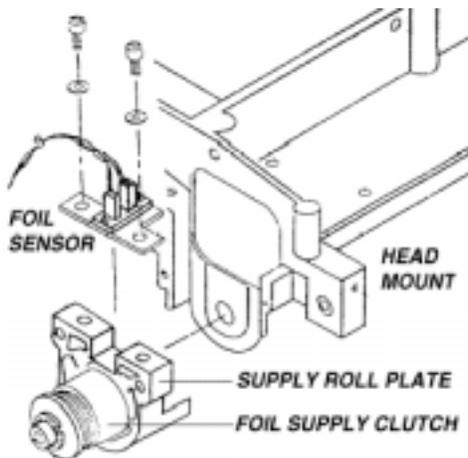

Fig. 1
1. Remove the top cover. Use a 2.5mm allen wrench to remove the (4) screws securing the top cover.
2. Remove the foil sensor/bracket assembly from the back of the supply roll plate (Fig. 1) by using a 3mm allen wrench to remove the (2) screws and washers. DO NOT let the allen screws and small washers fall into the Edge.
9. Install foil sensor/bracket assembly on the back of the supply roll plate with the wide center of the 'T' shaped bracket facing into the Edge (Fig. 1), then secure the (2) allen screws and washers using a 3mm allen wrench.